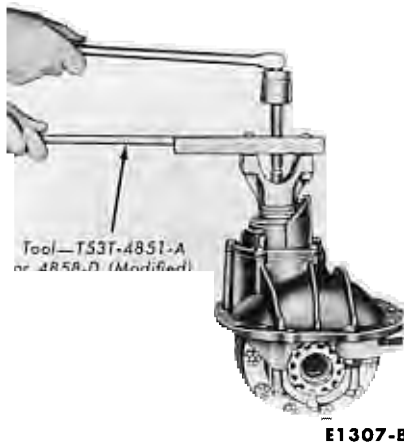

FIG. 36—Removing U-Joint Flange
1. Turn the carrier case upright, and remove the pinion shaft nut (Fig. 35). Then remove the U-joint flange (Fig. 36).